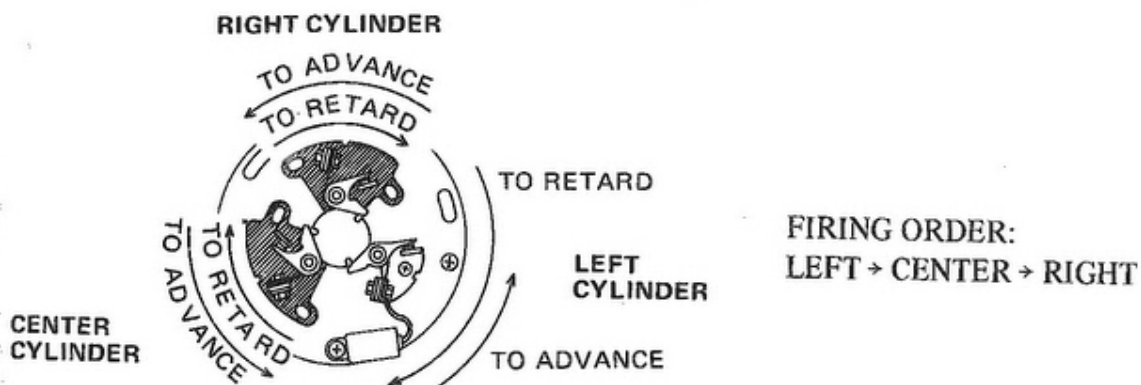

Fig. 7-11-10
- 6) To adjust the ignition timing, move the contact breaker base or the adjuster plate as shown in Fig. 7-11-10.